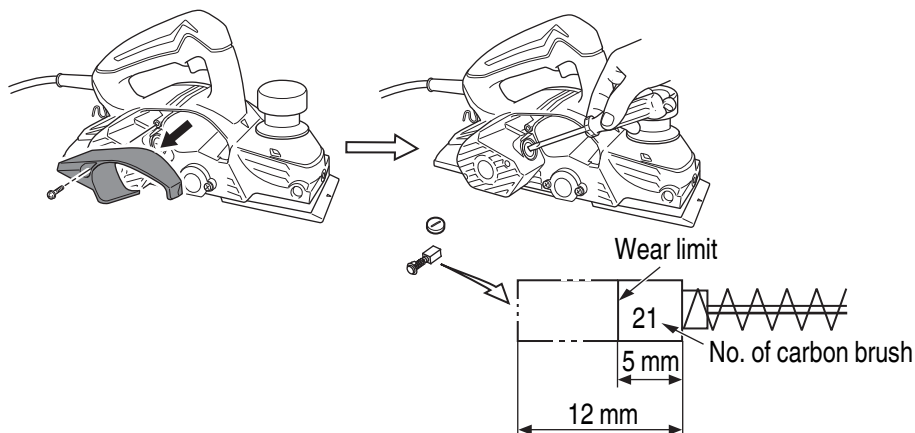

Fig. 30
4. Inspecting the carbon brushes (Fig. 30)
5. Replacing carbon brushes (Fig. 30)